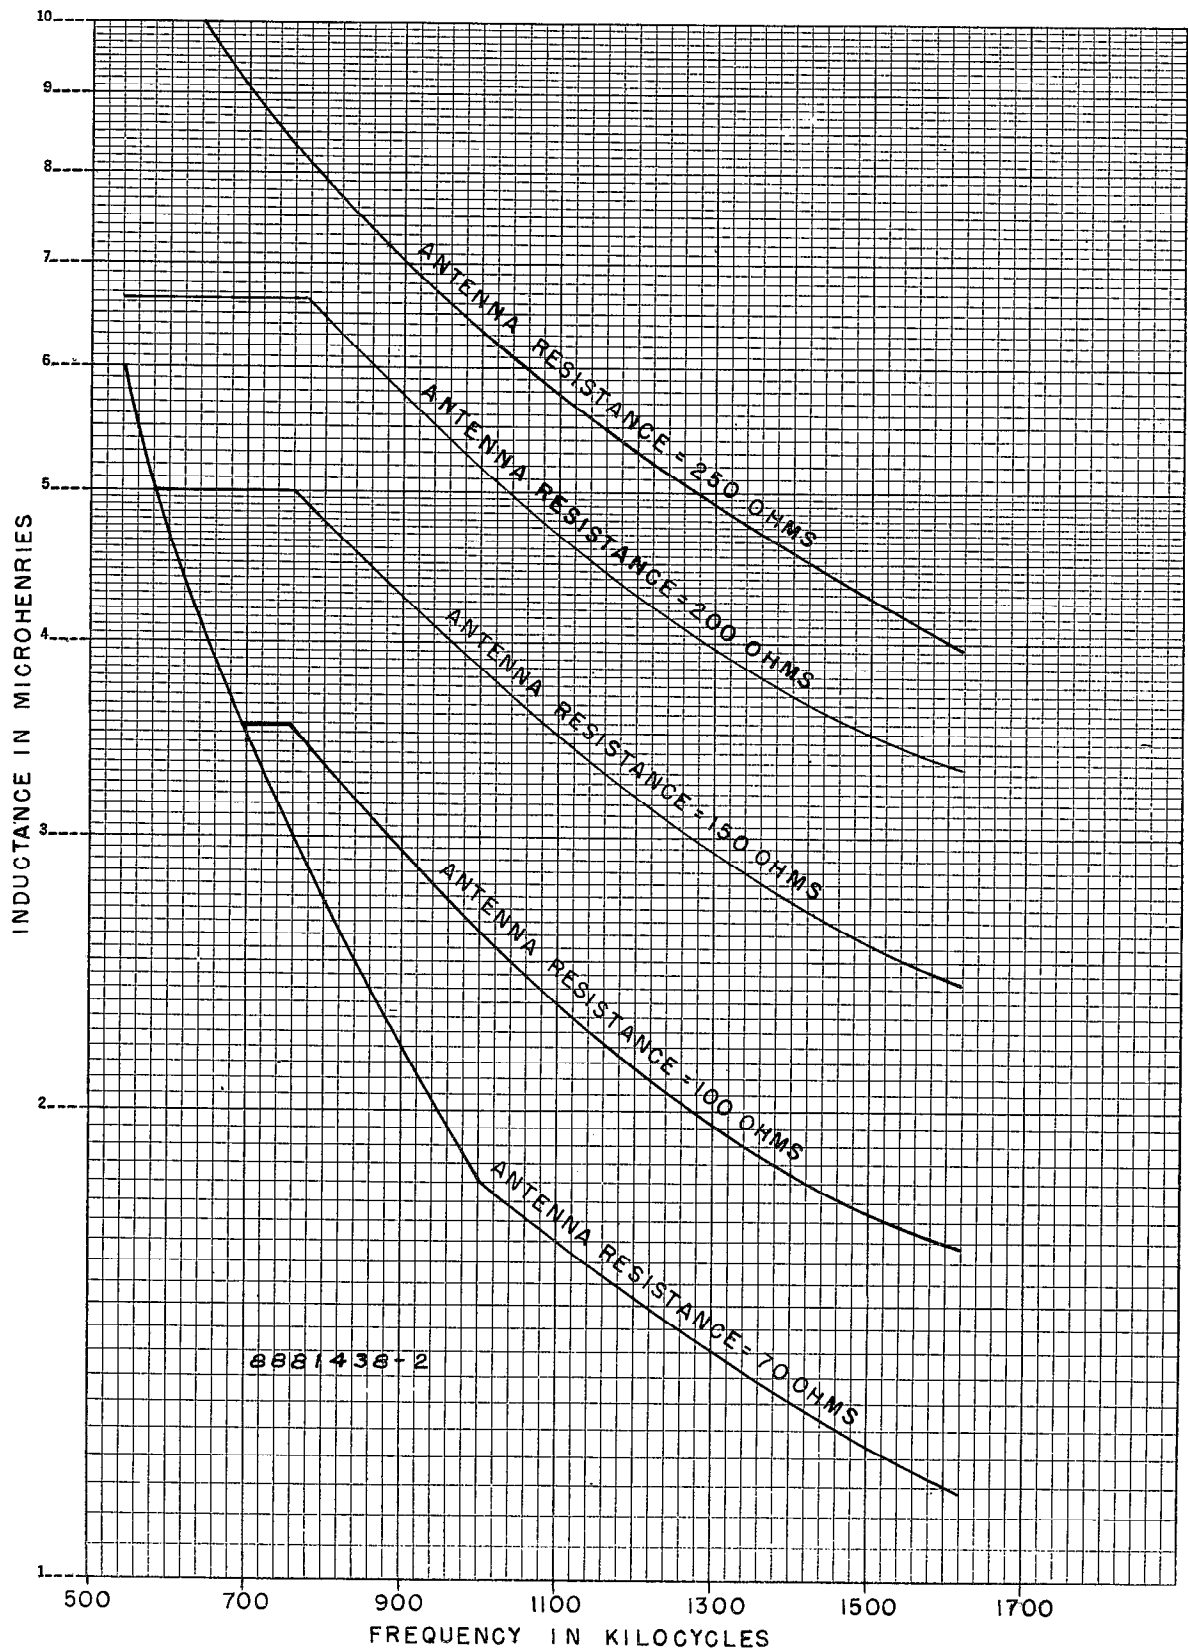
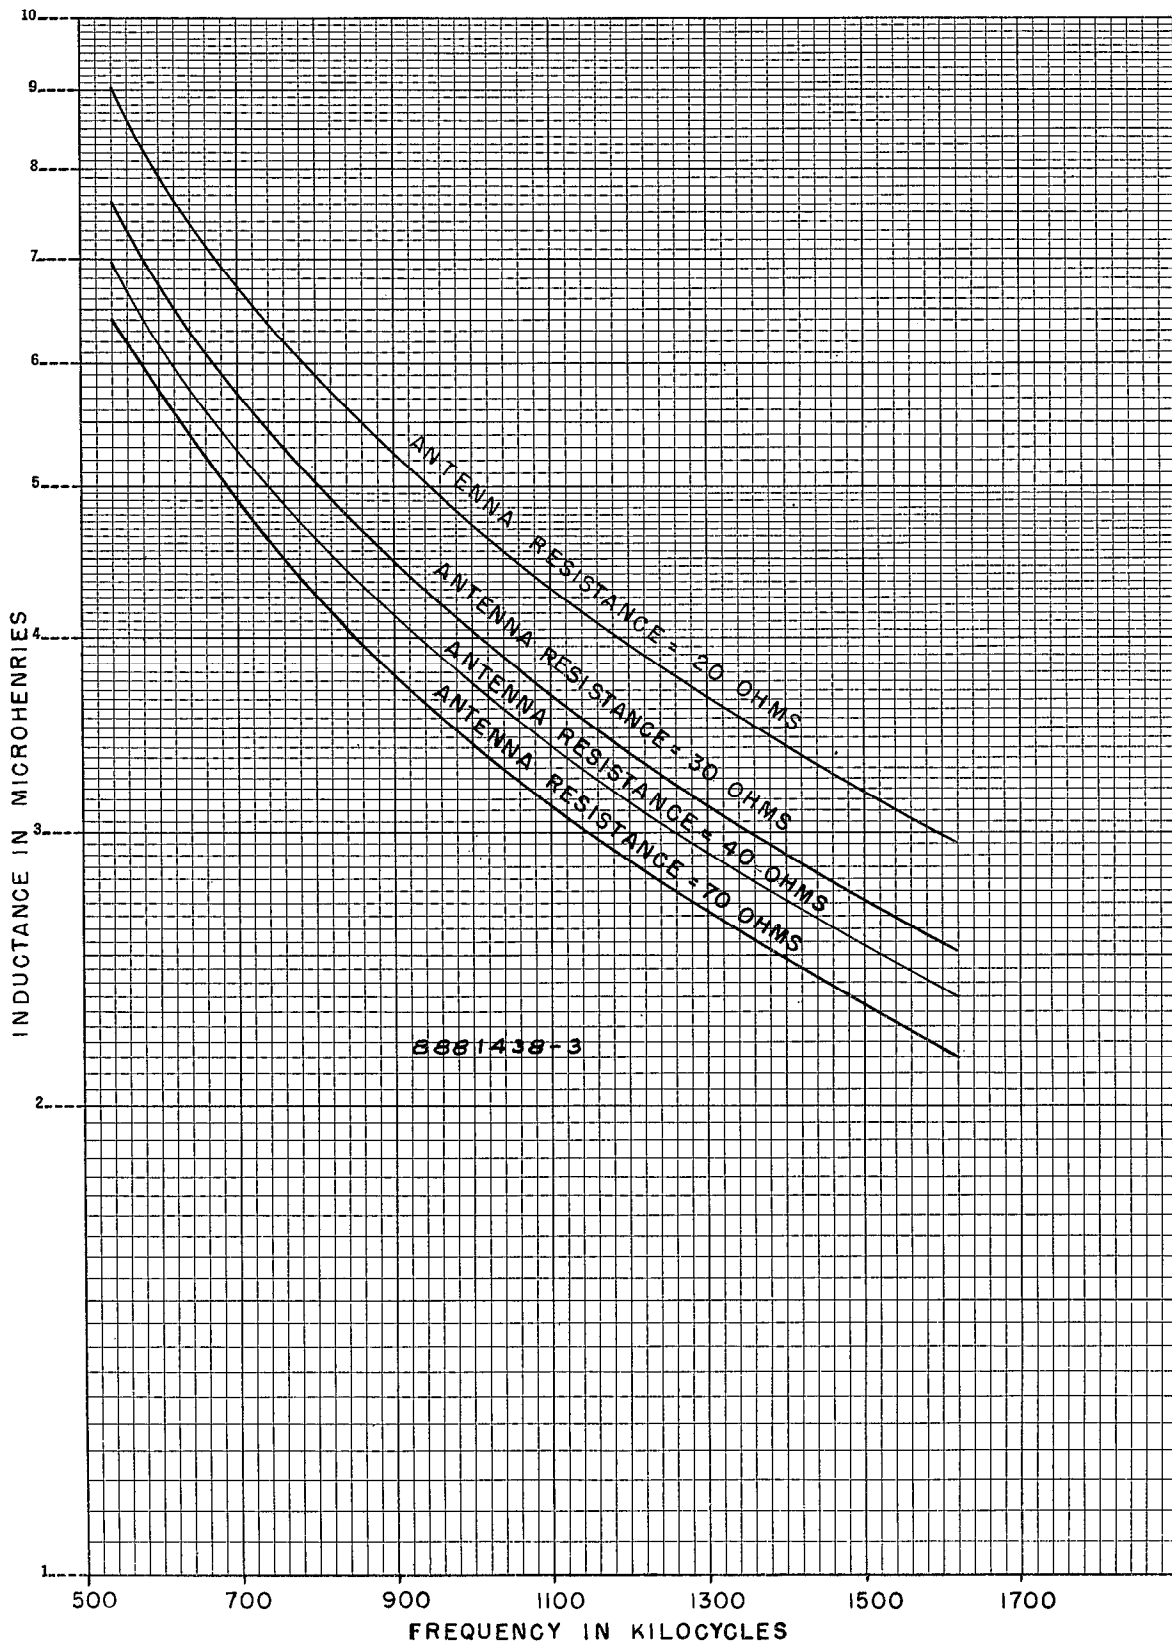

Figure 4—Inductance of L106, Antenna Resistance Above 70 Ohms (8881438-2)
Figure 5—Inductance of L106, Antenna Resistance Below 70 Ohms (8881438-3)
The adjustment of inductor L106 and the shunt capacitance may be determined from Figures 4, 5, and 6. It should be noted that curves for the inductance of L106 appear on both Figures 4 and 5. Figure 4 is to be used where the antenna resistance is greater than 70 ohms; if the antenna resistance is less than 70 ohms, Figure 5 is to be used.
4. From Figure 4 or 5, determine the required inductance of L106, using the known frequency and antenna resistance.
4. From Figure 5, the inductance of L106 should be 3.8 microhenries.